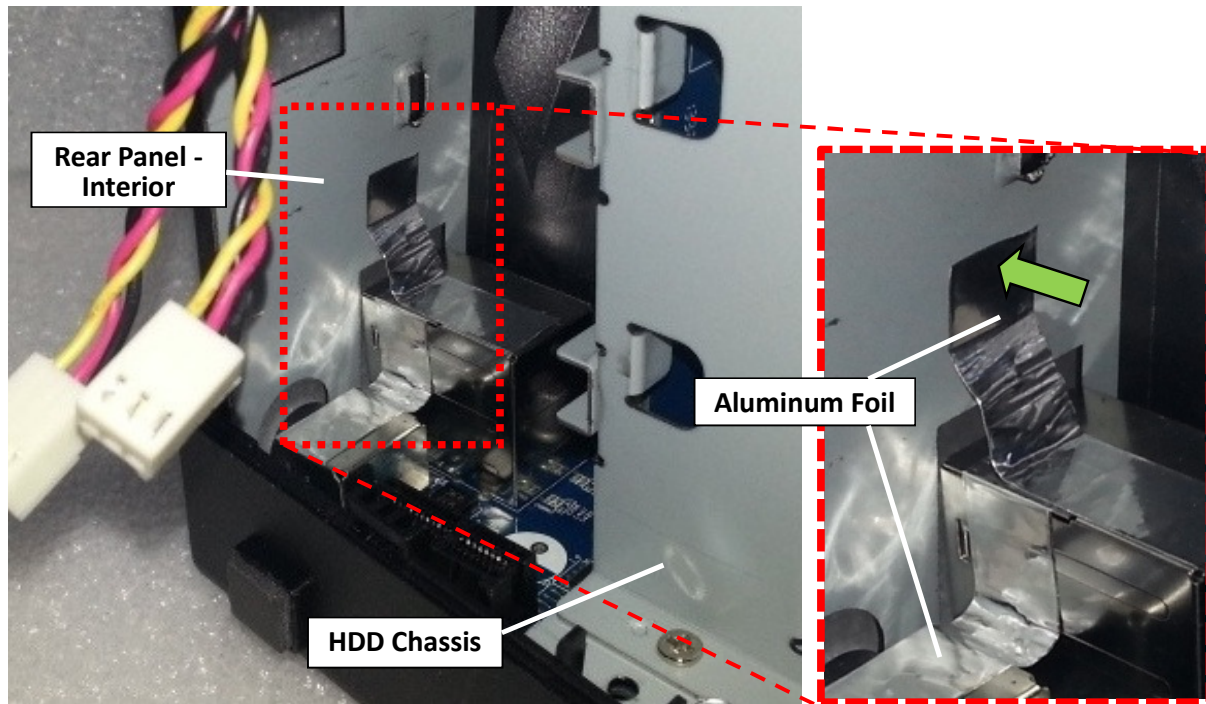

Fig. 31
2.2.5 Replace the two aluminum foils with new ones on the same locations. (Fig. 31)